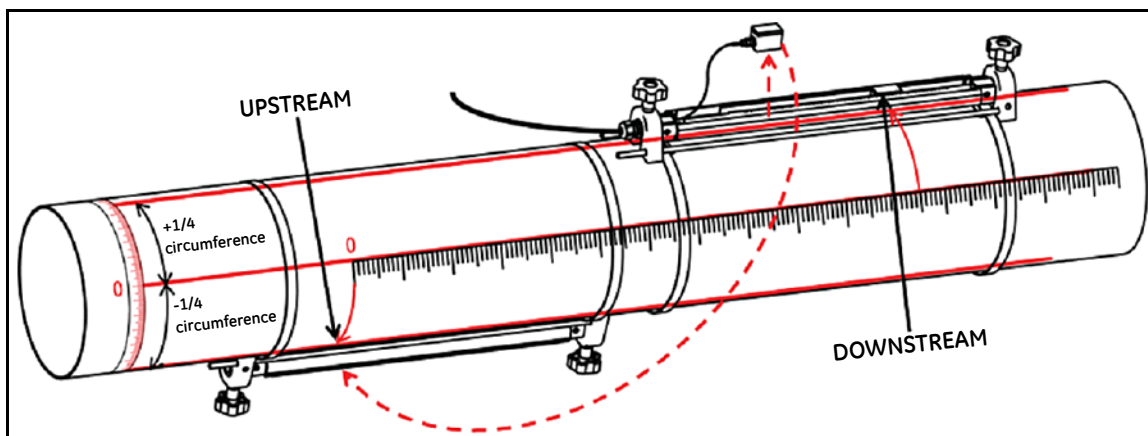

Figure 21: 1 Traverse Installation for Transducer Spacing >320 mm
For a one traverse installation with a calculated transducer spacing of >320 mm for a 1 MHz or 0.5 MHz transducer, two clamp-on fixtures are installed on opposite sides of the pipe. To install this configuration, refer to Figure 21 below and complete the following steps:
- b. Remove the upstream transducer from the first fixture (see Figure 21 below). Disconnect the transducer cable and route the cable into the second fixture.